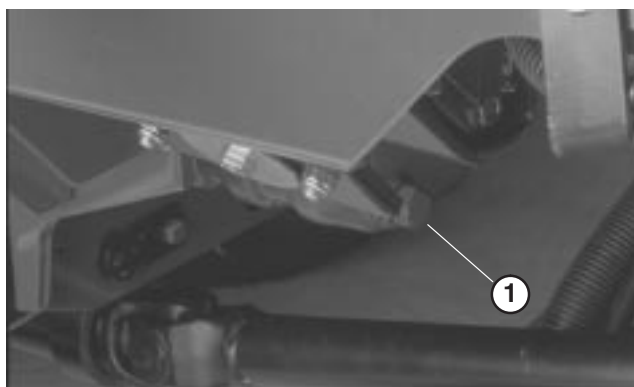

Figure 50
1. Remove drain plug (Fig. 50) and let oil flow into drain pan. When oil stops, install drain plug.